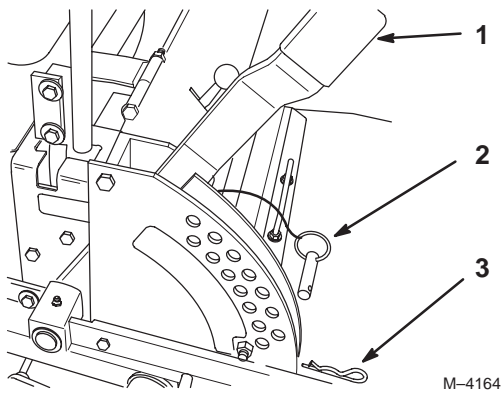

Figure 19
1. Raise the height-of-cut lever to the transport position (also the 5 in. (127 mm) cutting height position) (Fig. 19).
2. To adjust, remove hairpin cotter and clevis pin from height-of-cut bracket (Fig. 19).
3. Select hole in height-of-cut bracket corresponding to the height-of-cut desired and, insert clevis pin (Fig. 19).
4. Secure clevis pin with hairpin cotter (Fig. 19).